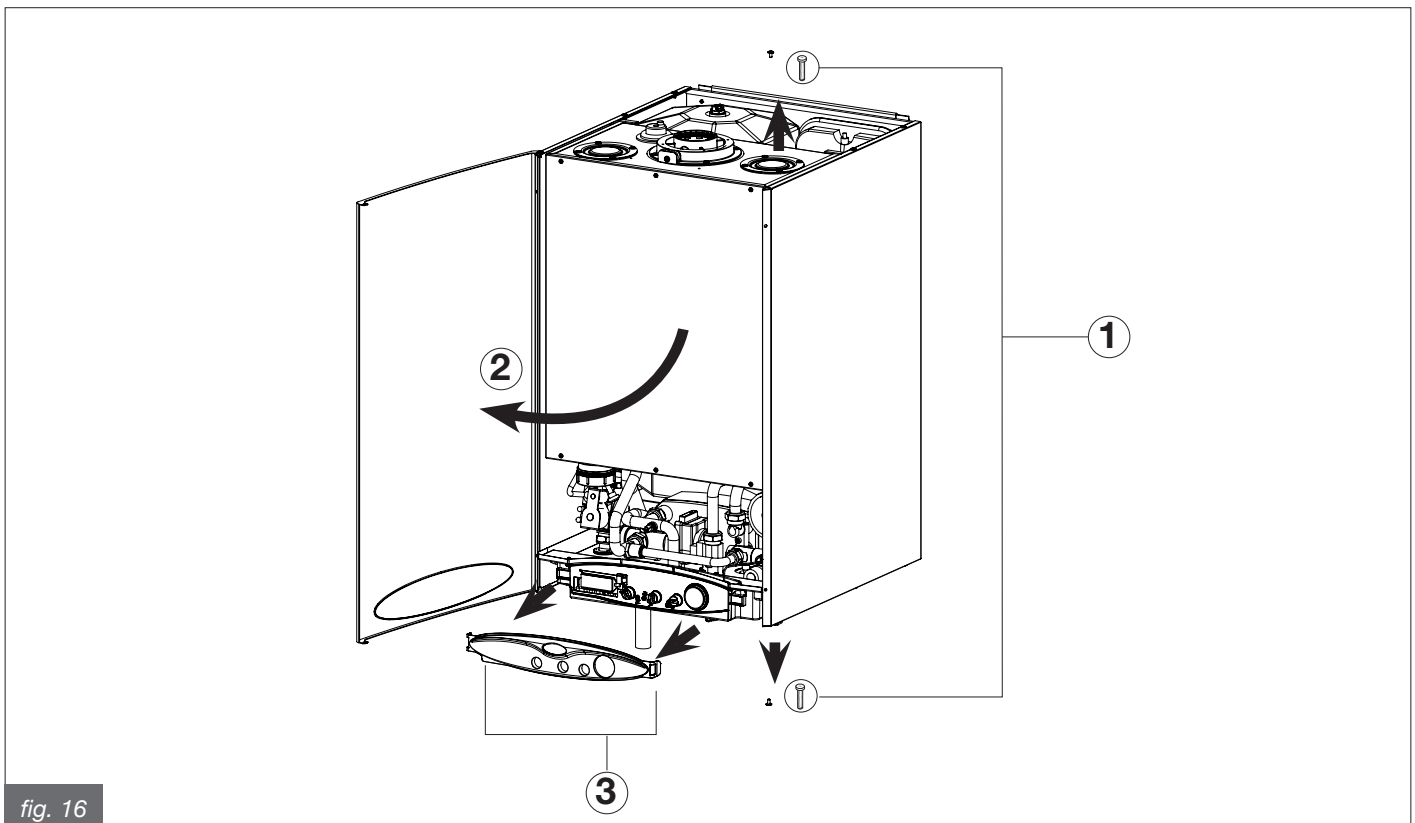

fig. 16
- Remove the control panel mask by pulling the hooks on either side outwards and pulling the mask towards you (fig. 16).